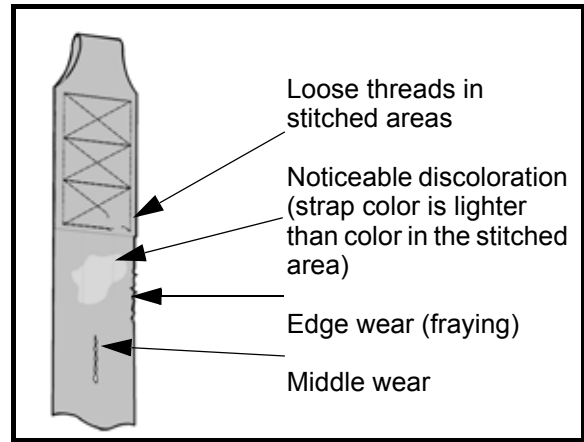

Fig. 40
- 2) Look for any signs of wear or discoloration (see Fig. 40).